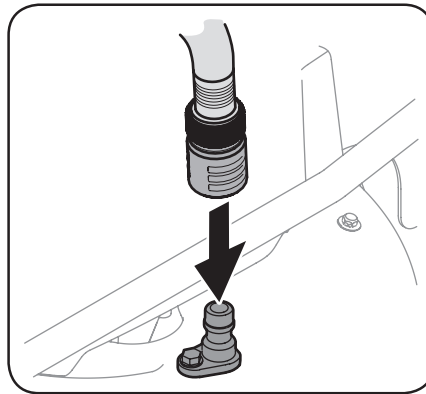

Figure 4-6
- Attach garden hose with the deck wash nozzle to the water port on your deck's surface. See Figure 4-6.